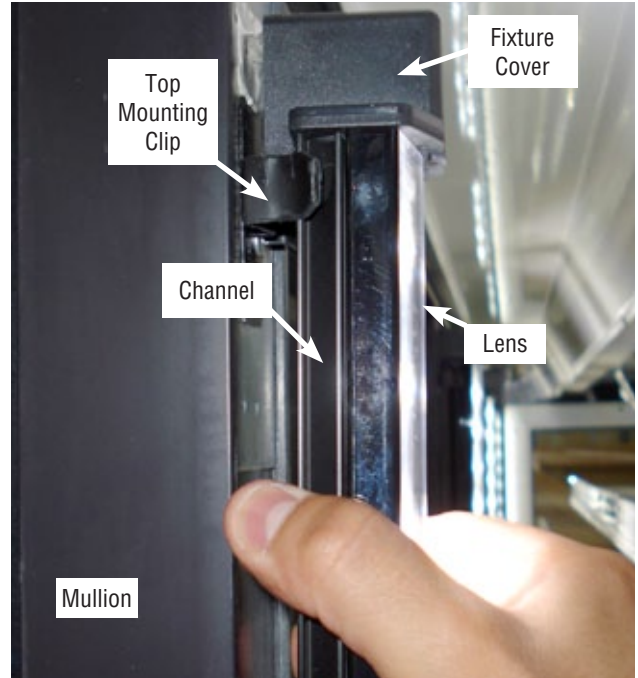

Figure 2. Remove Fixture
- B. With free hand, grip the LED fixture as shown in Figure 2.